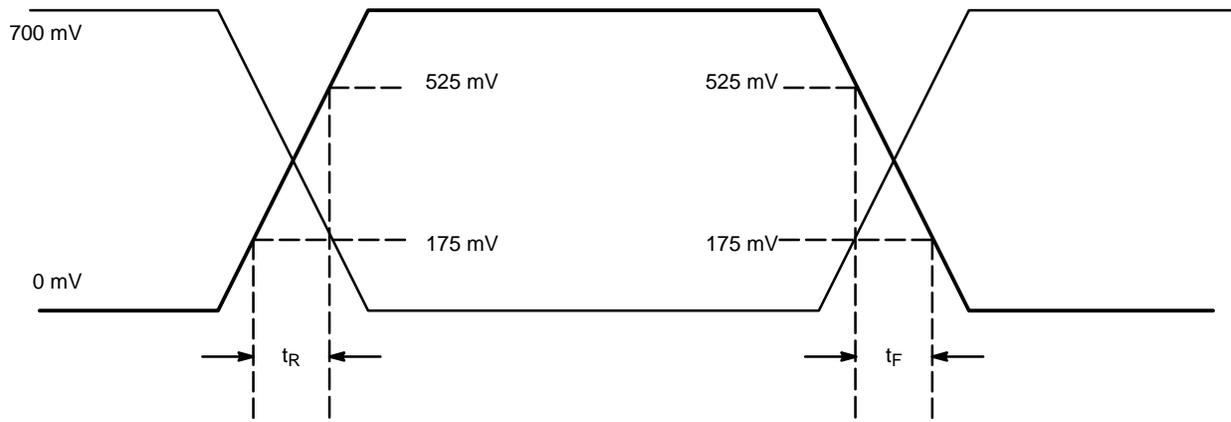

Figure 11. HCSL Output Parameter Characteristics
18. VDDXD and VDDODA power pins must be shorted to power supply voltage V_{DD} and GNDXD and GNDODA ground pins must be shorted to power supply ground GND. Measurement taken from differential output on single-ended channel terminated with $R_S = 33.2\ \Omega$, $R_L = 50\ \Omega$, with test load capacitance of 2 pF and current biasing resistor set at 475 Ω . See Figure 11. This parameter is guaranteed by characterization. Not tested in production.